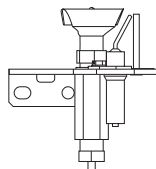

Figure 21 - Pilot
6. Turn the main burner wall switch to the ON position for ignition. There will be a spark at the electrode. The electrode is located by main burner (see Figure 21).